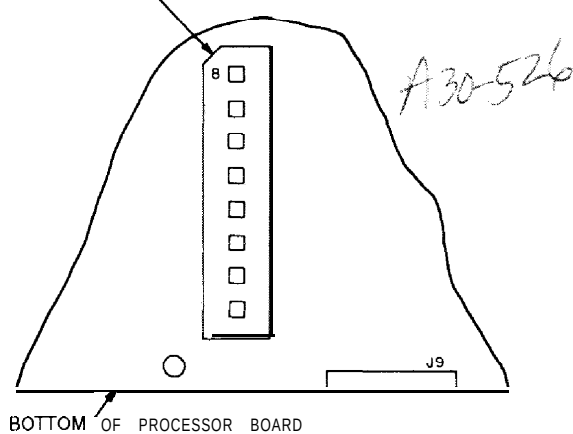

Fig. 27 – Configuration Header
8. Remove the factory-installed configuration header from the old processor board. Use a small screwdriver to wedge under the configuration header to remove it; then re-install the header in the new board. The orientation of the header should be as shown in Fig. 27. Use extreme care in handling the header.